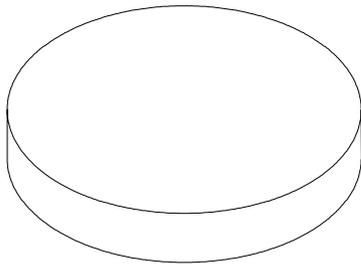
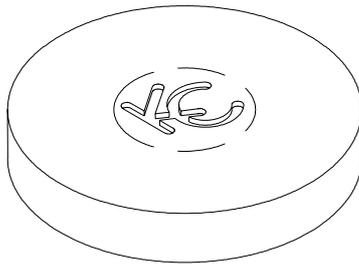
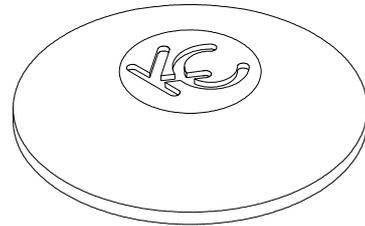

Fig. 1
Fig. 2
Fig. 3
In the next two labs, you will obtain an aluminum disc 3" in diameter and .5" thick (Fig. 1). Inscribe your own unique pattern on the top with the CNC milling machine (Fig. 2), and turn a custom border/facial profile on the remainder of the disk with the CNC lathe (Fig. 3).
- see Mastercam create the G-code for a similar profile as shown in Fig. 3